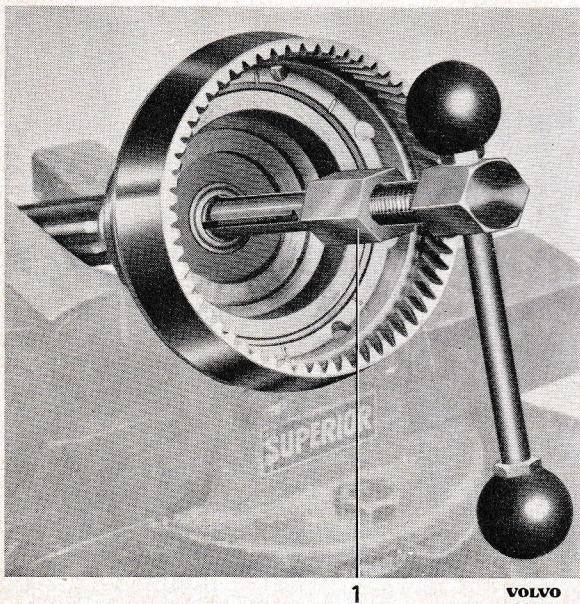

Fig. 15. Removing needle bearing, output shaft
6. Unscrew the bolt and pull out the bushing and small speedometer gear wheel. Unscrew the nut for the coupling (24). Pull off the coupling with puller SVO 2262. Place the housing in a press and press out the output shaft (23).
7. Remove the brass washer (35) which holds the free wheel on the output shaft. Lift out the free wheel parts. Remove the thrust washer (32). If necessary, pull out the needle bearing (31) in the output shaft with tool SVO 2423, see Fig. 15. Pull off the bearing on the output shaft preferably using a knife puller.